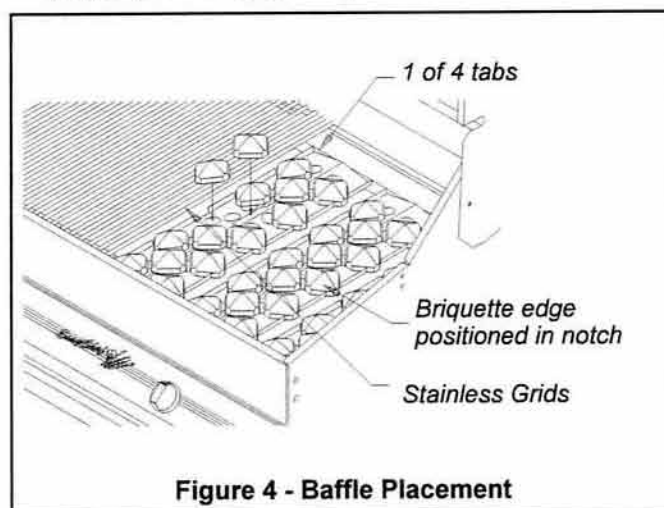

Figure 4 - Baffle Placement
- 1) Remove packing from the Stainless flame baffles. Turn baffles at an angle and drop into the chassis. Align the baffle, (4) tabs fore and aft for proper position (**figure 4**).